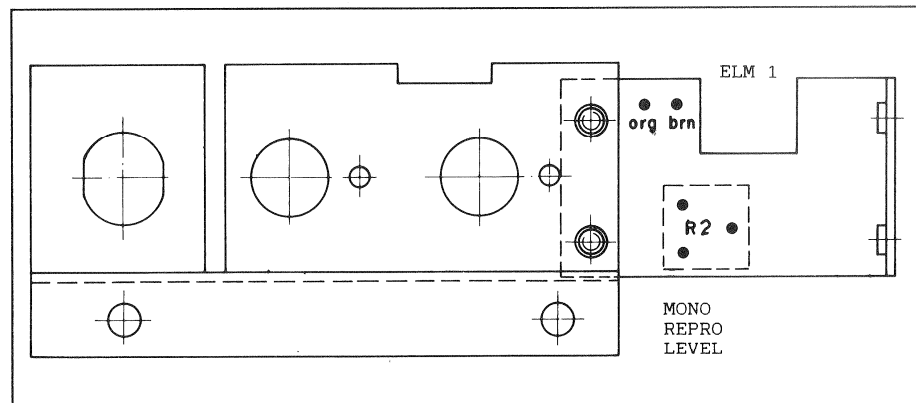

Fig. 4.10.3
- Play the level tone section of the reproduce calibration tape and adjust the desired mono reproduce level by means of the R2 REPRO LEVEL potentiometer (below the small right-hand cover above the headphones socket). See Fig. 4.10.3 next page
See Fig.4.10.3 next page.